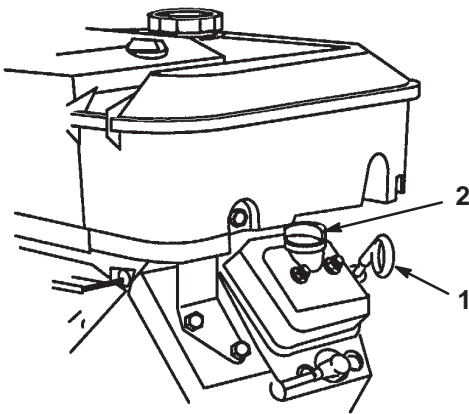

Figure 2
2. Remove the dipstick and wipe it with a clean rag (Fig. 2). Insert the dipstick into the tube and make sure it is seated fully. Remove the dipstick and check the oil level.
3. If the oil level is low, remove the filler cap from the valve cover (Fig. 2) and pour oil into the opening until the oil level is up to the Full mark on the dipstick; refer to Engine Oil, page 23, for the proper oil type and viscosity. Add the oil slowly and check the level often during this process. **Do not overfill.**